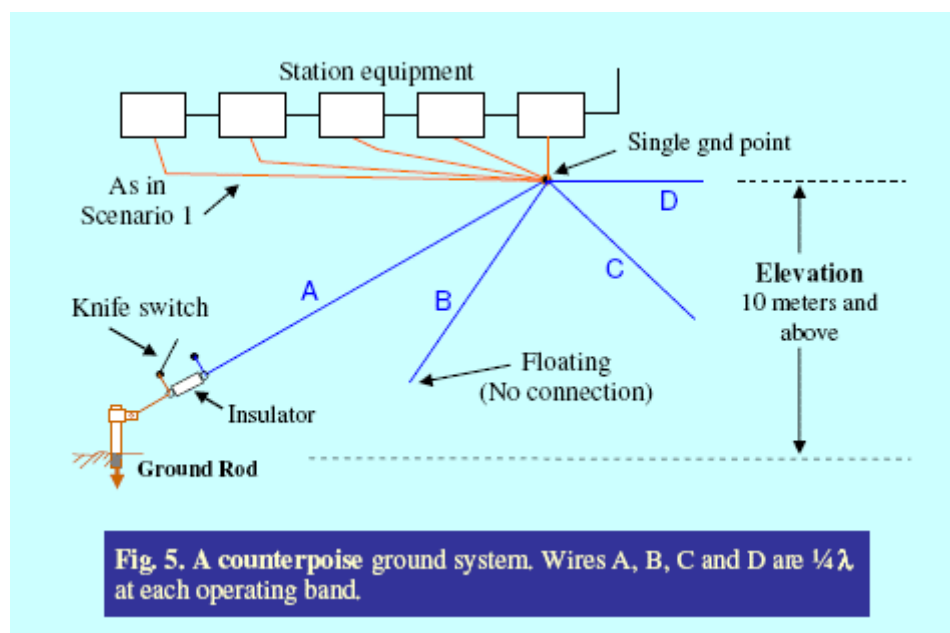

Figure 5.
This grounding technique is as old as the age of Ham Radio. The use of this technique dates back as early as 1895. It is used more effectively when earth ground conductivity is poor. But since your antenna per se also needs an RF ground to propagate efficiently at that higher elevation above earth ground (the reason of which, is beyond the scope of this article but maybe covered in future articles), it can be installed to perform the two functions. That is, to provide an artificial ground for the antenna when elevated high above earth ground and, to keep RF away from the station equipment. The setup is presented in Fig. 5 below.
2. Connect one end of each to the single ground point terminal (see Fig. 5).
3. Leave all the opposite ends free and floating (no connection). For better efficiency, stretch and spread each wire in a radial fashion, away from the station equipment as shown in Fig. 5. The position and orientation of the wires is not however critical so that you may want to anchor each at the side wall of the apartment building (of course you have to insulate the ends by using small egg insulators). Another alternate is just to let each wire dangle downwards but still the wires must be spread out. How you will do it will depend on your prolific imagination.